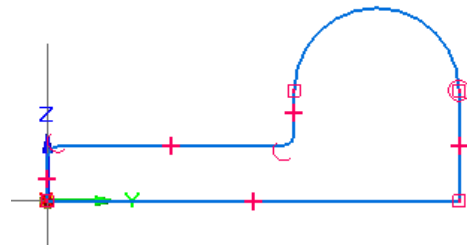

Figure 2-55 Fillets created in the model
4. Similarly, move the cursor over the corner where the upper horizontal line intersects the vertical line originating from the left endpoint of the arc. Now, click to select this corner; a fillet is created at this corner. Figure 2-55 shows the fillets created in the model.